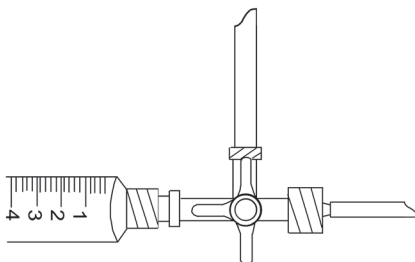

Figure A-6
6. Turn the stopcock to isolate the valve from the manometer assembly, connecting the syringe to the manometer (Figure A-6).
- Adjust the stopcock to connect the syringe to the manometer (Figure A-6 above) and refill the manometer to a height equal to the opening pressure setting of the Codman Hakim Valve plus 50 mm. If the Codman Hakim Valve is programmed to an opening pressure of 120 mm H₂O (1176 Pa), the height of the fluid in the manometer is 120 mm + 50 mm = 170 mm (17 cm) (1176 Pa + 490 Pa = 1666 Pa). This procedure minimizes the possibility of inadvertently activating the SiphonGuard Device during manometer testing.